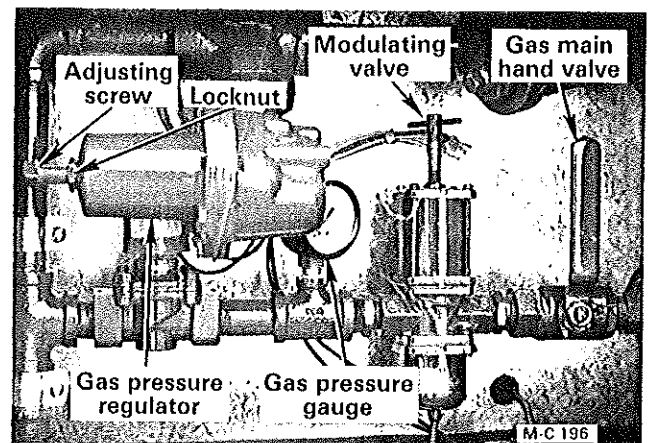

Figure 14
3. Close the gas main hand valve (handle 90° to the piping), see Figure 14.
4. Check the modulating valve in the gas manifold to be sure the "T" handle has not been turned all the way in to the wide open position, see Figure 14. The "T" handle should be halfway between the closed and fully open position.
3. Open the gas main hand valve (Figure 14) $\frac{1}{4}$ of the way. Flip the burner ignition switch ON. After a ten (10) second delay the gas valve light will be ON and the burner will light.